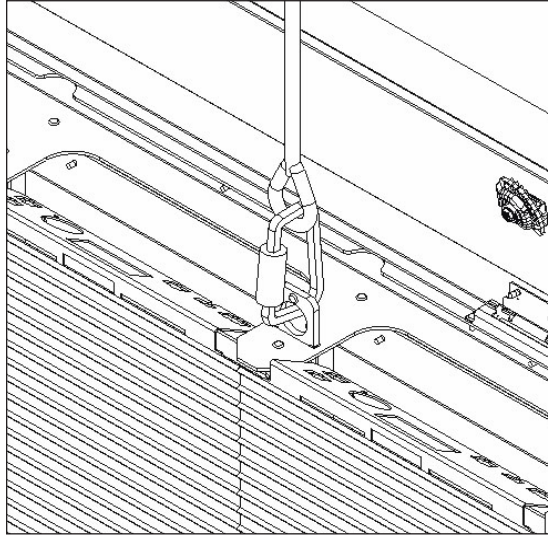
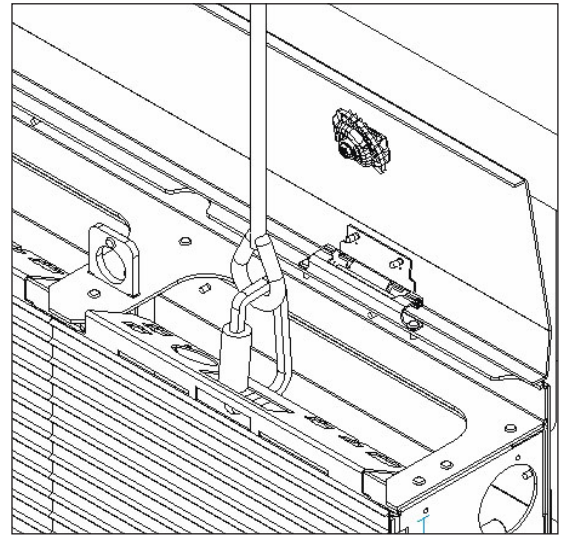

**Figure 47:** Removing Beverage Shroud
**Figure 48:** Accessing Beverage Shroud
2. Use a  $\frac{5}{16}$ " hex security bit (Daktronics part number TH-1170) to release the beverage shroud security latches. The beverage shroud may be left on in a flipped-up position or removed by rotating it up and unhooking the spring-loaded hinge pins. Refer to Figure 47 and Figure 48.